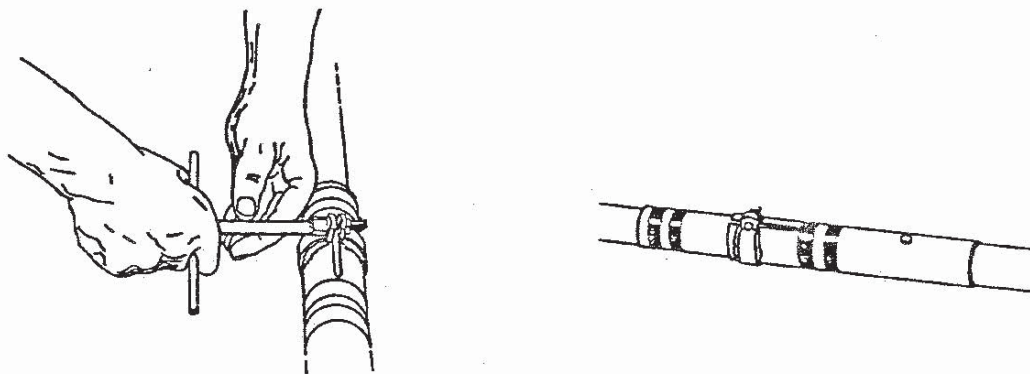

Figure 2-43
- r. Refer to Figure 2-43 for element splice connection details. Note the matching color coding on the end of each tube.